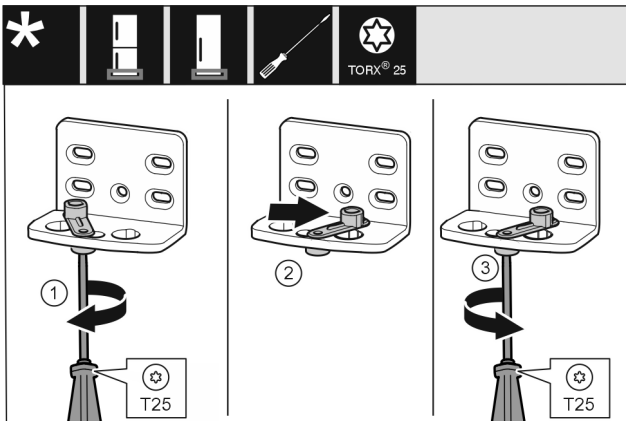

Fig. 16
- ▶ Loosen the screw using a T25 screwdriver. *Fig. 16 (1)*
- ▶ Lift the door closing aid and turn it 90° to the right in the hole. *Fig. 16 (2)*
- ▶ Tighten the screw using the T25 screwdriver. *Fig. 16 (3)*